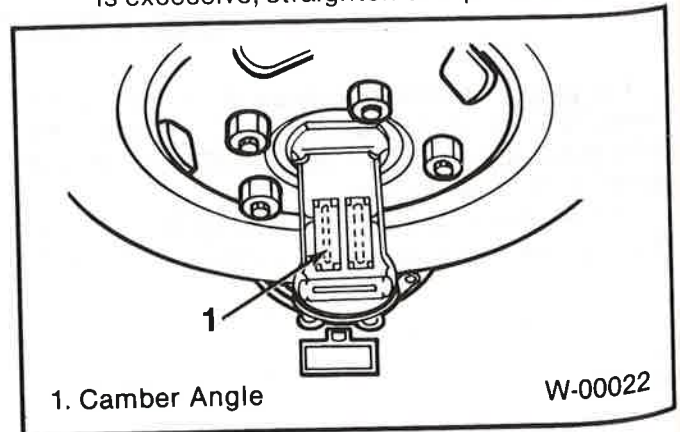

Figure 3. Checking Camber Angle—Typical
- c. Remove the front hub cap. Install camber, caster, and kingpin inclination gage on end of the knuckle spindle horizontally (figure 3).